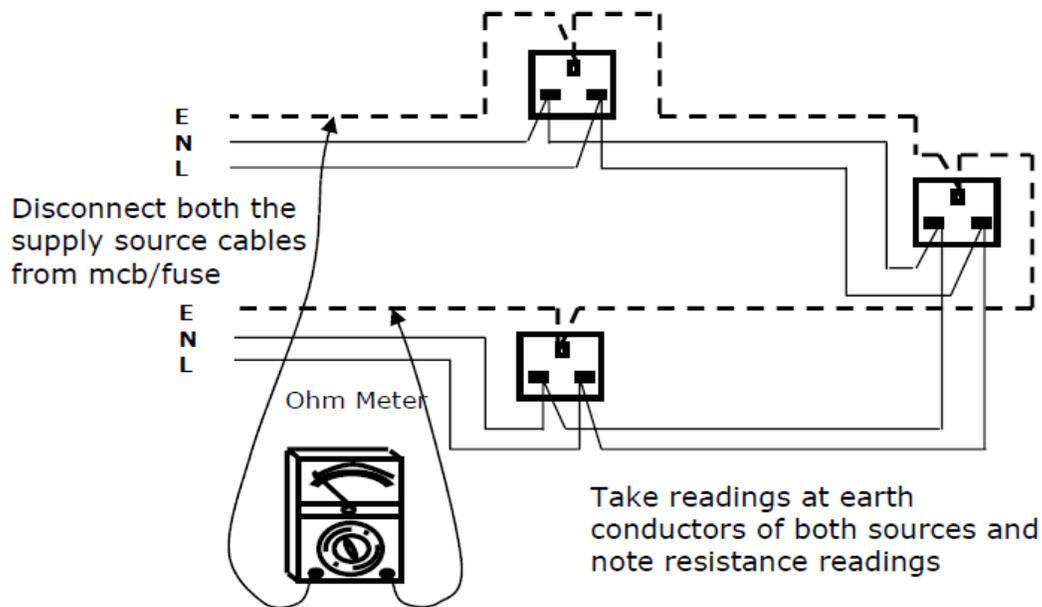

Figure 6.3 : Final Ring Circuit Conductor Continuity Test
2. Connect the test leads as in the Figure 6.3 (E - E)